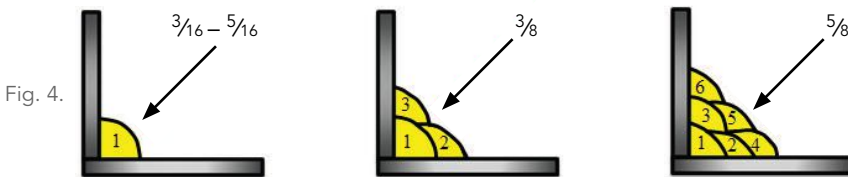
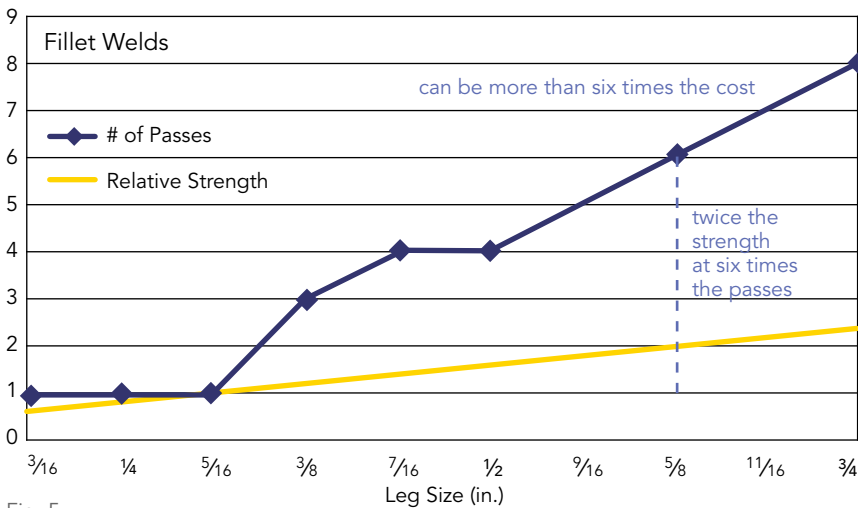

Fig. 4.
Fig. 5.
**5. Use single-pass fillet welds.** If possible, try to use single-pass fillet welds. Figure 4 indicates that a 3/8-in. fillet weld requires three passes, which is approximately three times the cost for a strength increase of 20%. Figure 5 indicates that doubling the fillet weld strength will increase the cost to approximately six times that of a single-pass weld. The increase in welding cost for multiple-pass welds is generally much more than the increased material cost required to accommodate single-pass welds.